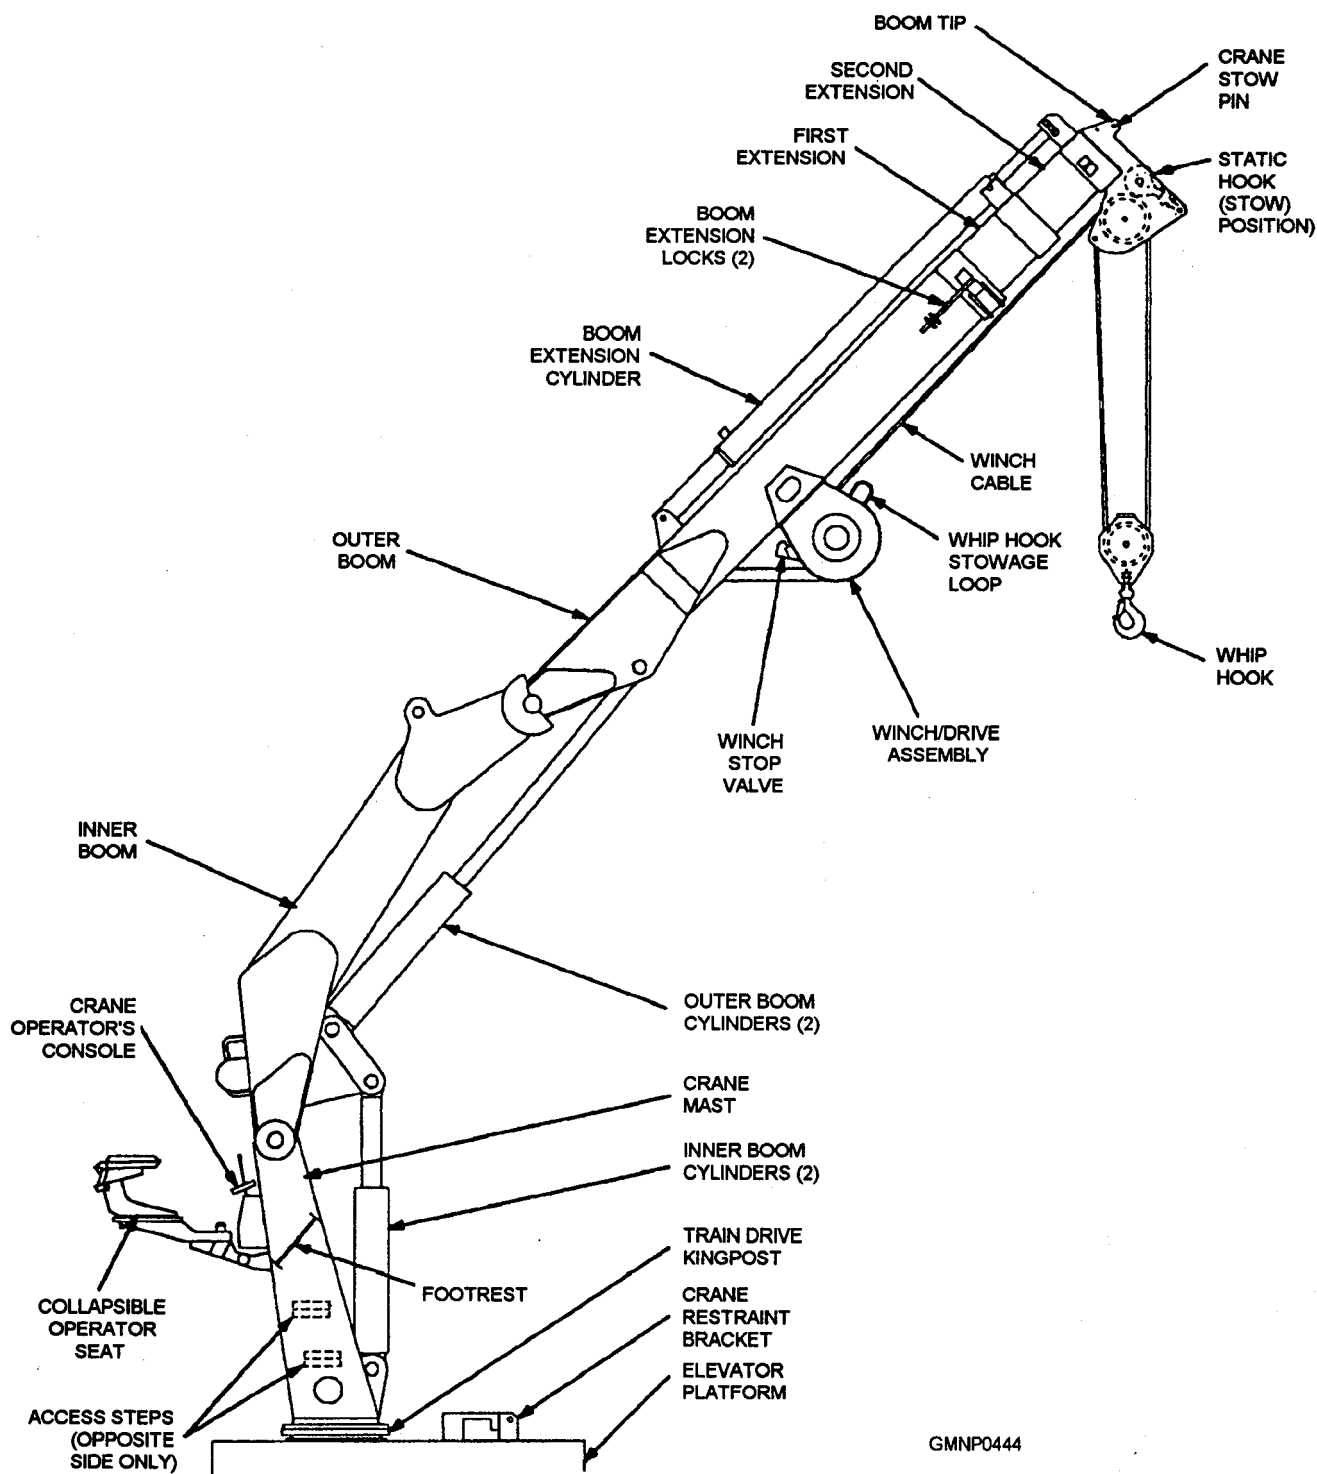

Figure 8-18.—VLS strikedown crane Mk 1 Mod 0 in operating configuration.
**CRANE ASSEMBLY.**— The Mk 1 Mod 0 strikedown crane (fig. 8-18) is a hydraulically powered, knuckled-type crane. The crane mast is bolted to the elevator platform through the drive king post. The crane mast contains the crane operator's console, collapsible operator seat, footrests, and access steps. The elevator assembly supplies the electric power for the crane indicator night lights and the hydraulic power that drives the crane.